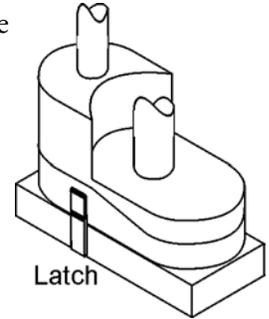

Figure 7-4. Humidifier
10. Also behind the access door is the humidifier. See Figure 7-4. Lift the latches on both sides of this small unit.